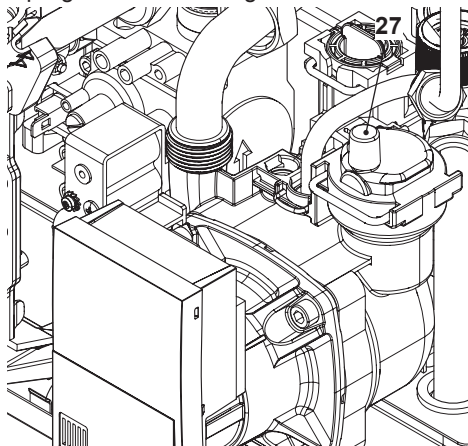
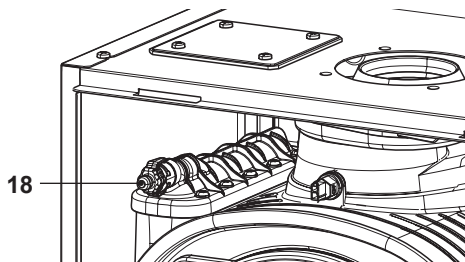

Fig. 9.7
Fig. 9.8
- To make draining easier, lift the plug 27 of the automatic relief valve in Fig. 9.7. To help the draining of the primary circuit loose the condensing heat exchanger air purger valve 18 in Fig. 9.8.